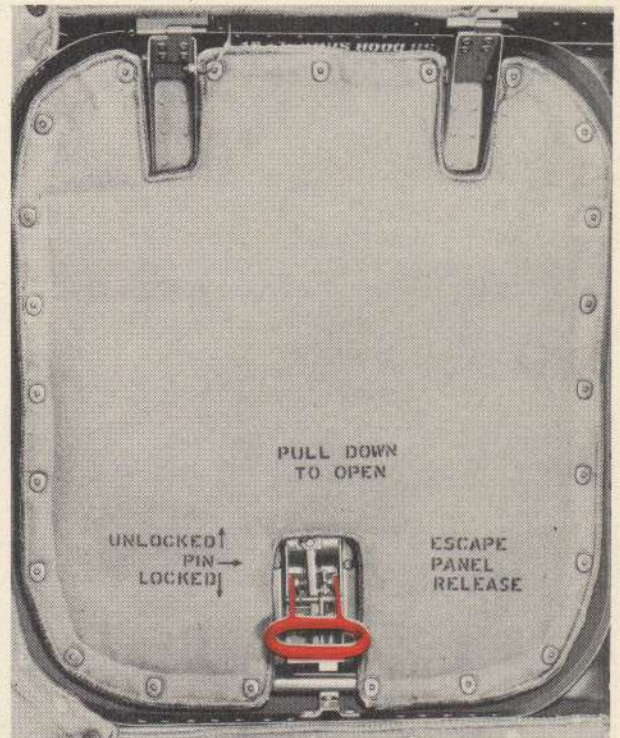

Figure 30—Pilots' Emergency Exits
d. **PILOTS' EMERGENCY EXIT.**—The pilots' emergency exit (see figure 30) is located on the top of the fuselage to the left of the centerline at the forward end of the radio operator's compartment.